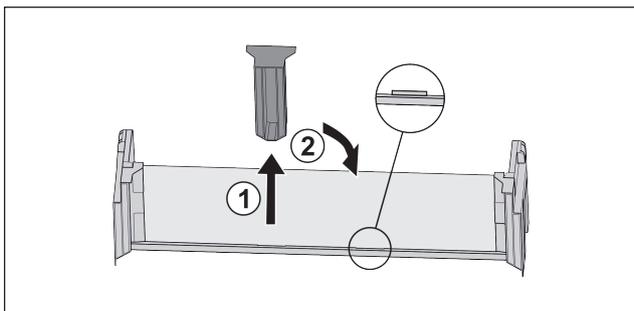

Fig. 18*
- ▶ Pull off the middle holder Fig. 18 (1).*
- ▶ Insert the middle holder in the second position Fig. 18 (2).*